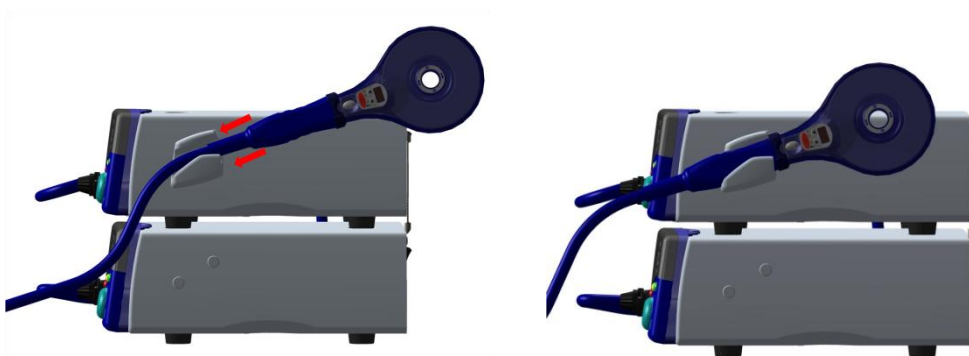

Figure 4.4: Attaching the coil to the coil holder
**Note:** There is locating key on the coil connector (Stimulating coil and Bistim2 connecting module leads A+B), which needs to be aligned with the corresponding receptor on the coil output socket. It is then possible to rotate the outer collar of the coil connector clockwise, in order to lock the coil to the stimulator/ Bistim2 connecting module. (see Figure 4.4)